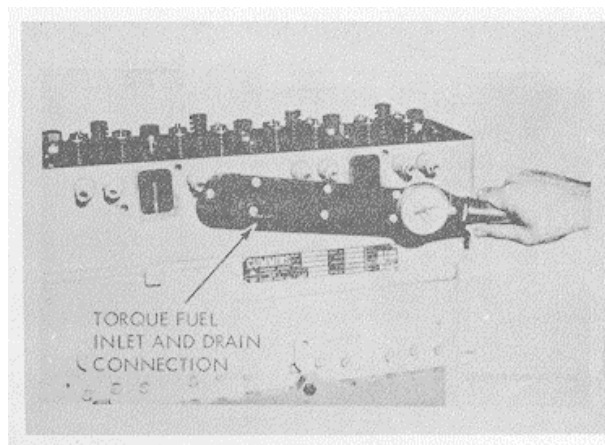

Figure 3-94. Torquing fuel inlet and drain connection.
(7) Tighten inlet and drain connections to 20/25ft.-lbs., figure 3-94. Be sure that wrench engages nuts next to connection springs.